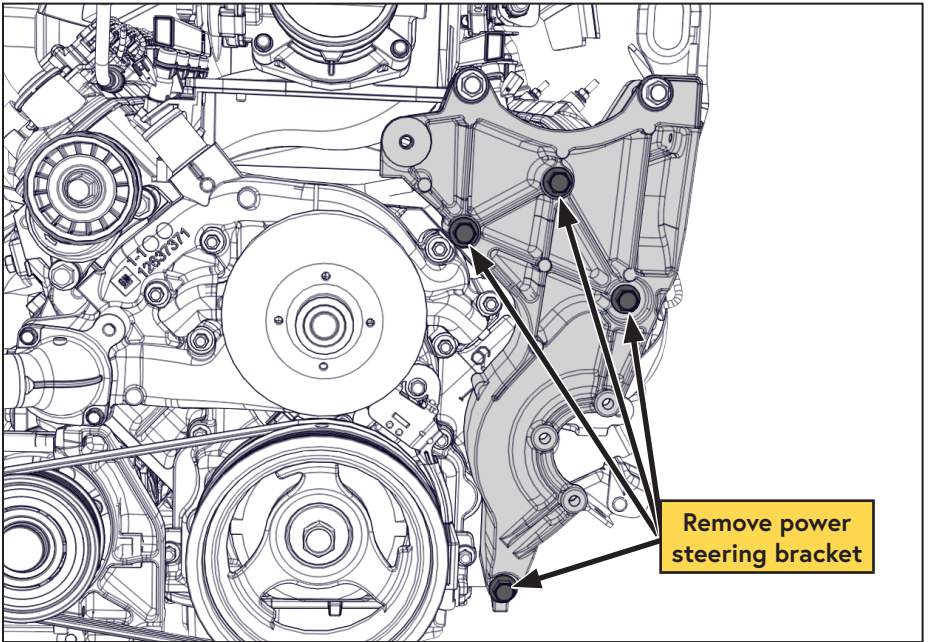

Figure 11 — Accessory bracket removal
- Remove the 4 OEM alternator / power steering bracket bolts and remove the bracket. Retain the bolts for reinstallation later (Figure 11).